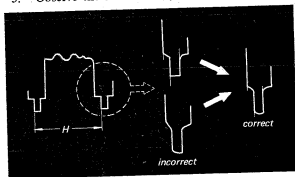

Fig. 6-2. Noise eliminator adjustment
3. Observe the horizontal sync shown in Fig. 6-2.